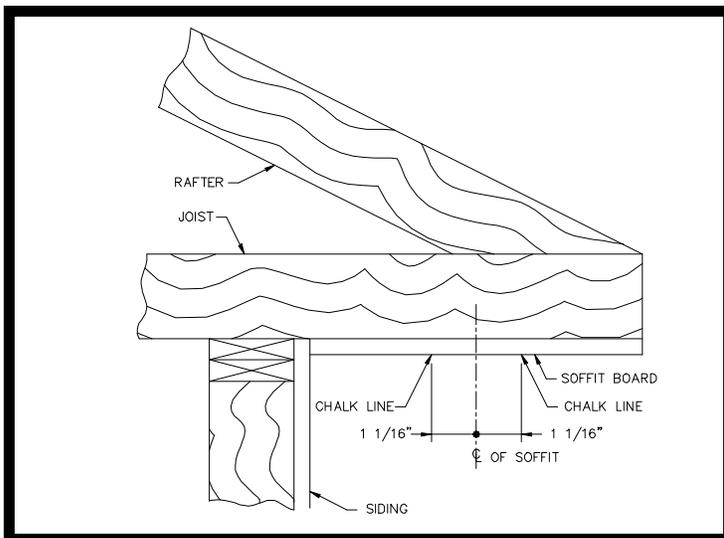

Figure 1
**STEP-1** Find centerline of soffit and strike chalk line 1-1/16" on either side of this centerline. This will give you a 2-1/8" cutout centered in soffit to place 105 soffit vent into. (See Fig. 1)